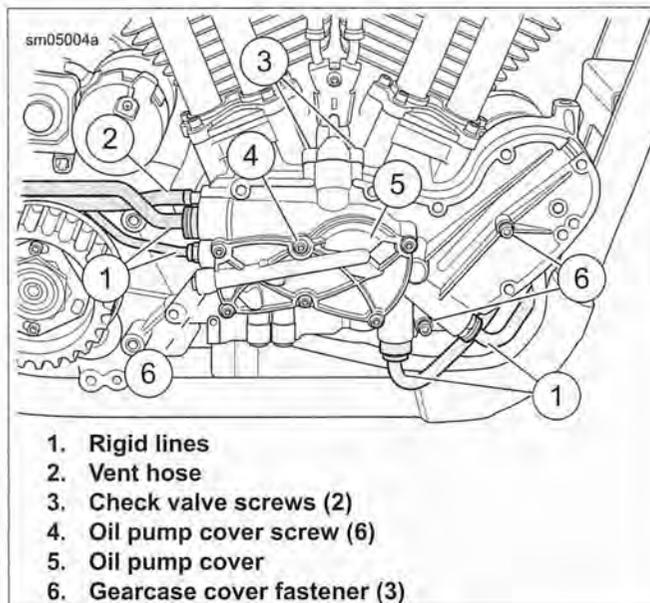

Figure 3-105. Gearcase Cover and Oil Pump: XR 1200X
6. See Figure 3-105. Remove rigid lines (1) and vent hose (2) from gearcase cover. Mark lines and hoses for later installation. Discard hose clamps. See 3.13 PRECISION COOLING SYSTEM: XR 1200X, Oil Pump Lines.
7. Remove two check valve housing screws (3).
8. Remove six screws (4) and remove oil pump cover (5). Discard O-rings.
9. Remove three fasteners (6). Loosely install oil pump cover to prevent rotors from falling out unexpectedly.